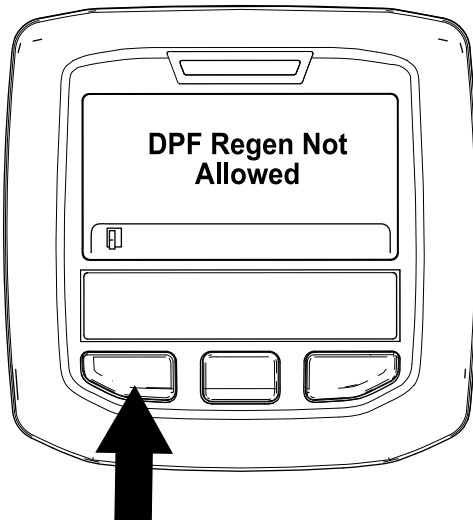

Figure 47
- If the regeneration process is not allowed by the engine computer, the “DPF Regen Not Allowed” message displays in the InfoCenter (Figure 47). Press the left button to exit to the home screen